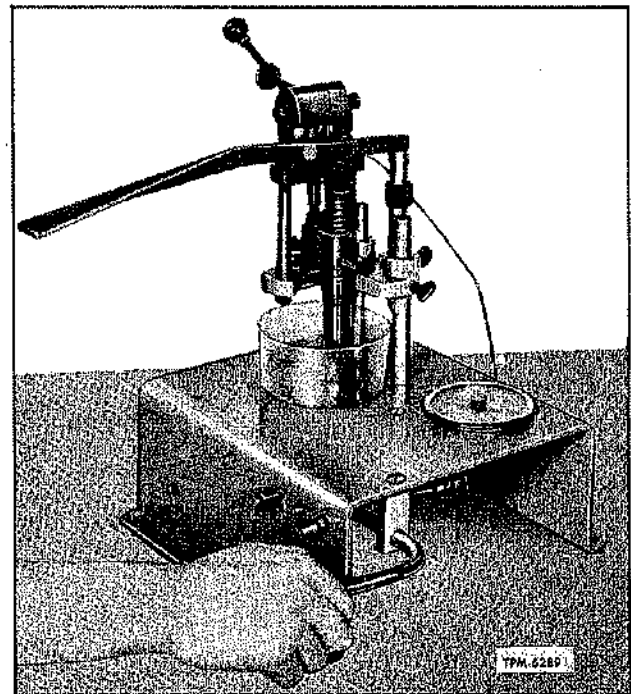

Figure 11—Pumping Up Testing and Popping Fixture
3. With the injector rack in **FULL FUEL** position, pump handle of test fixture with smooth even strokes (fig. 11) and record the injector valve opening (pop) pressure, indicated when injector sprays fuel. The pop pressure should be 450 to 850 psi. If the pop pressure does not fall within the above range, refer to "Low or High Pop Pressure" chart at end of this section.